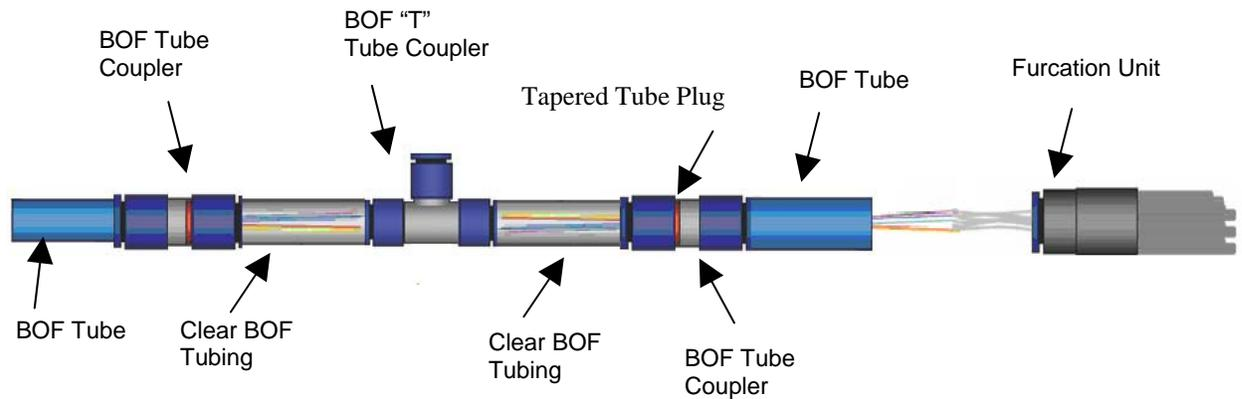

Figure 9
Step 2 – Insert each individual fiber into one of the loose tube furcation tubes within the furcation unit (Figure 9). Feed each fiber through the furcation unit until all of the fibers are protruding from the ends of the individual loose tube furcation cables.